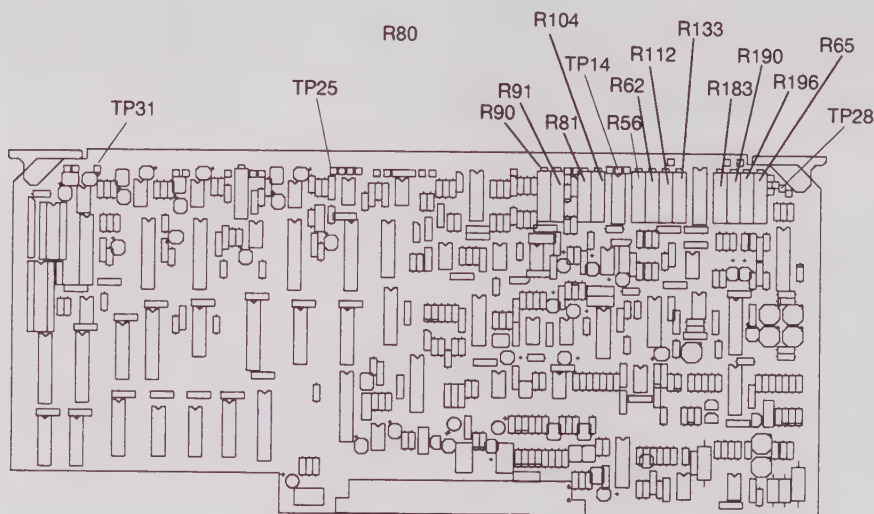

Figure 6-5. Adjustments and Test Points, A6 ALC/Frequency Instruction PCB (all except 54154A thru 54177A)
- Step 2.** Set DVM for DC, 1V range (not autorange). Connect common lead to TP25; connect other lead to TP14 (Figure 6-5 or 6-6).
Step 3. Adjust variable resistor R65 (Figure 6-5 or 6-6, page 6-14), for a DVM reading of $1.0000V \pm 0.5 \text{ mV}$. For 54154A thru 54177A, go to Step 6.
Step 5. Adjust variable resistor R183 (Figure 6-5 or 6-6) for a DVM reading of $-4.1V \pm 0.1V$ ($0.0 \pm 0.1V$ for 54117A, 54147A).
Step 9. Adjust variable resistor R62 (Figure 6-5 or 6-6, page 6-14) to give a power meter reading equal to the 541XXA reset power level ± 0.5 dBm. These levels are listed in the table at left.